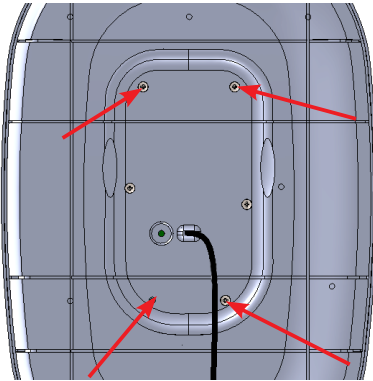
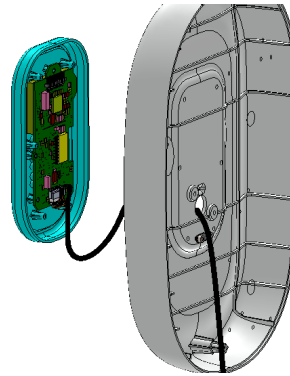

Figure 52
Figure 53
- Cut the cable tie holding the console cable as shown in Figure 52 .
- Remove the console assembly from base unit front cover by removing 4 self tapping screws using screw driver as shown in Figure 52 and Figure 53 .
- Take the new console assembly and route the console cable through the hole of front cover as shown in Figure 53 .
- Align the gasket properly and fix the console assembly to the base unit front cover with 4 self tapping screws at the screw locations shown in Figure 52 using screw driver. Lock the cable on the cable mount using cable tie as shown in Figure 52 .